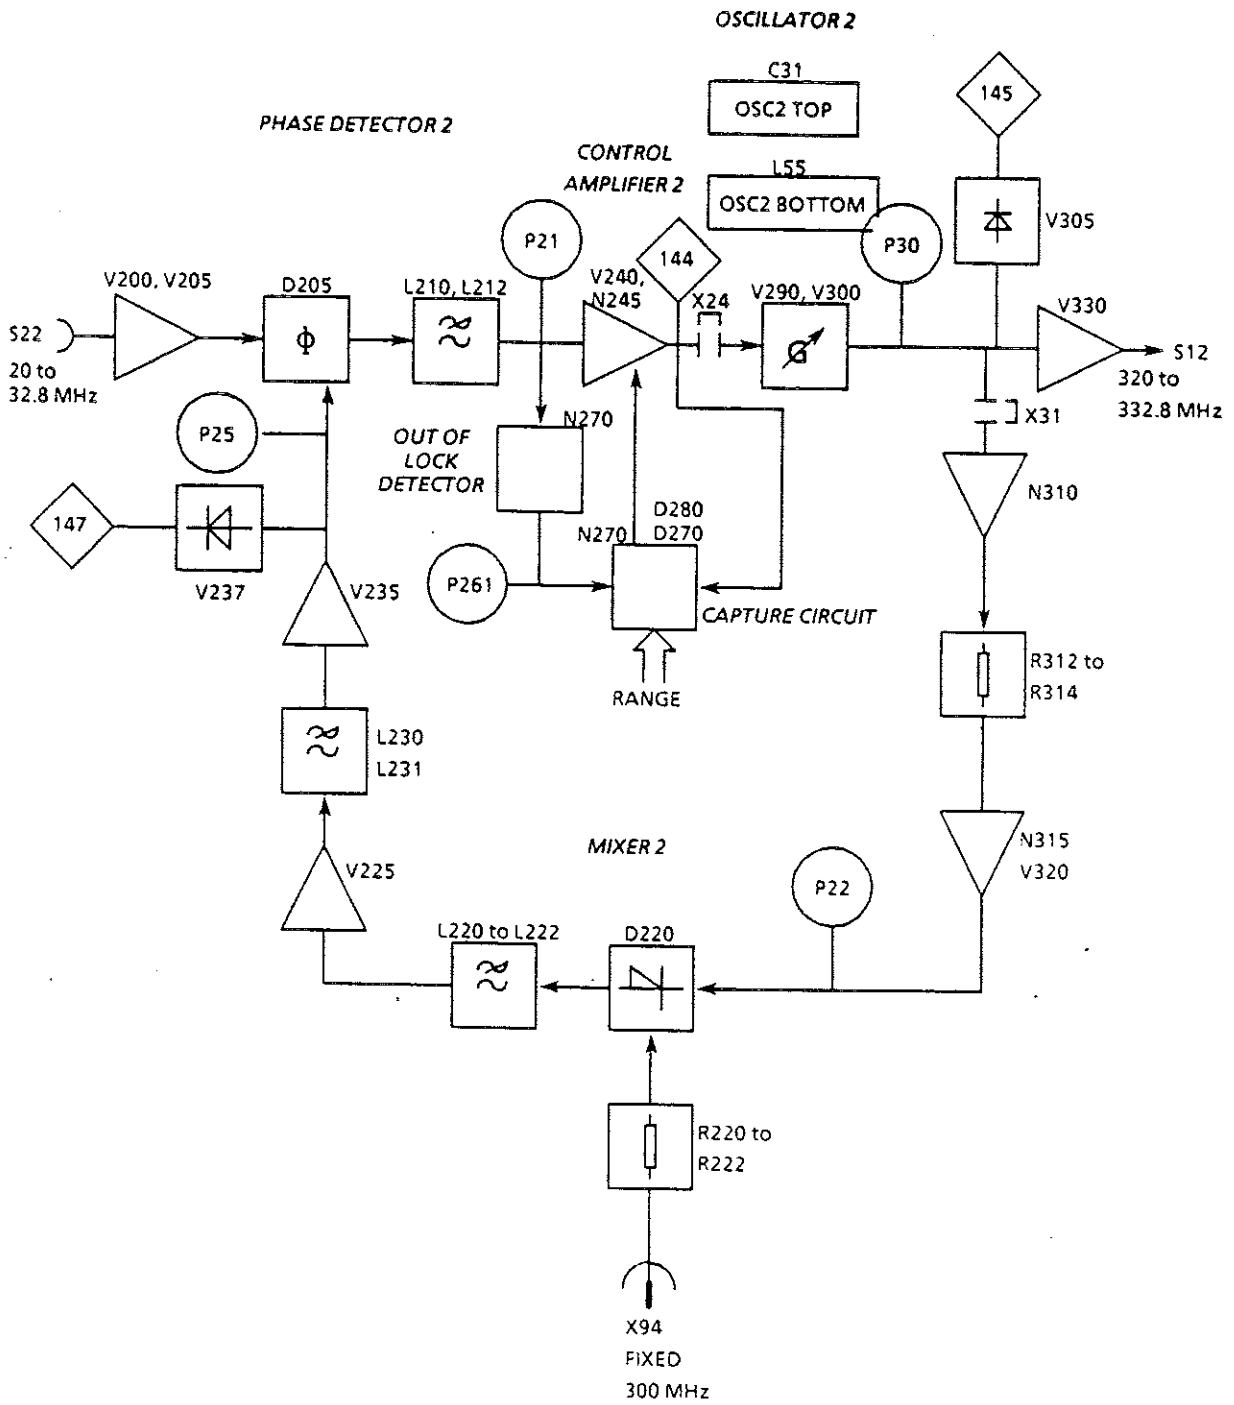

Fig. 5-3 Function diagram of "Summing loop 2"
5.1.2 Summing loop 2 (see Fig. 5-3)